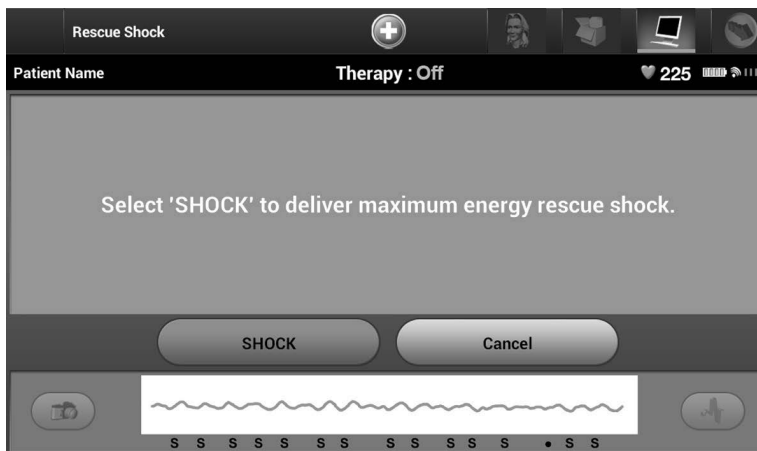

Figure 55: *Rescue Shock screen*
1. Select the red Rescue Icon at the top of the programmer screen. The Rescue Shock screen appears (Figure 55).